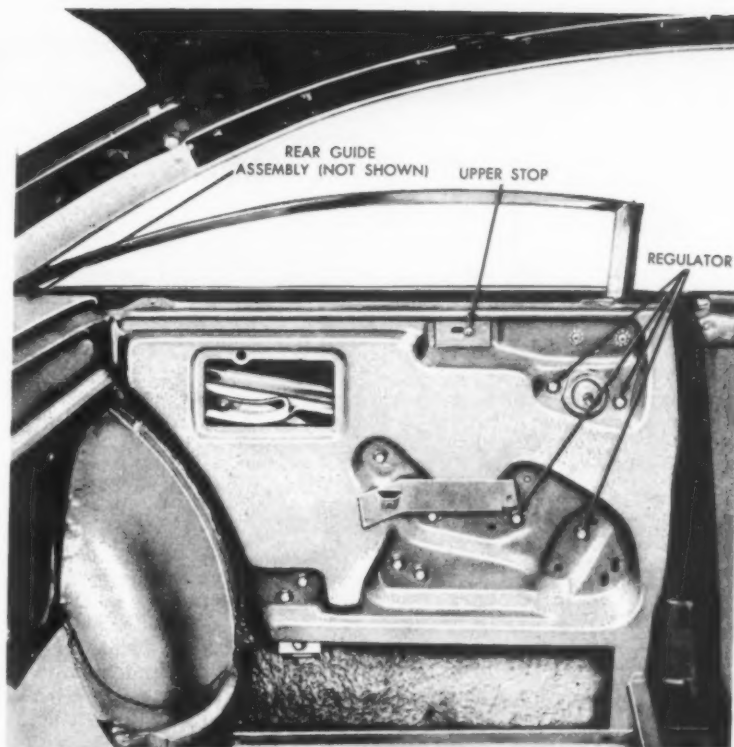

Fig. 6—Quarter panel of Ford's 1960 model 63.
2.—Remove the front guide upper mounting nuts and the lower mounting bolts (Fig. 6).